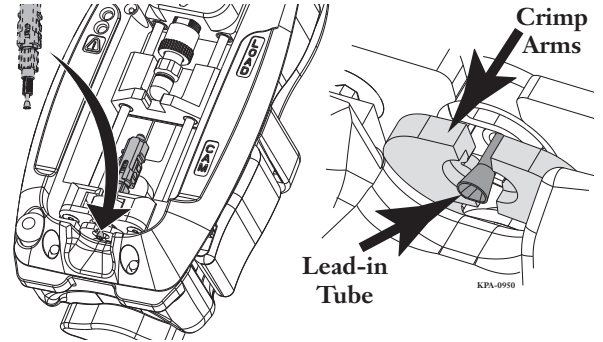

Figure 62 — Loading Connector into Pretium Tool
Step 2: Insert the connector lead-in tube first into the tool (Figure 62) so that: